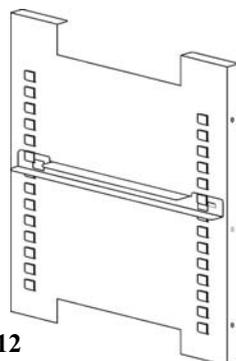

Figure 1-12
4. Figure 1-12 shows one of the channels installed on the right side duct.